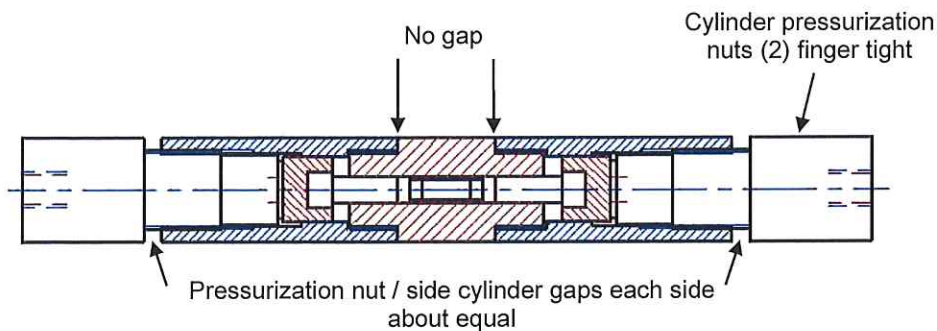

Fig 7 Final assembly before pressurizing
- 6) Thread the side cylinders finger tight to the center cylinder. There should be no gap between the side and center cylinders (fig 7).
Next, loosen the tightened pressurization nut about 3 turns and tighten the opposite pressurization nut. Again, the pressurization nut should tighten smoothly. Work the pistons and teflon sample tube back and forth in this manner about 3 times. When finished, finger-tighten both pressurization nuts so the sample is centered within the center cylinder. This is indicated by noting the gap between the pressurization nut and side cylinder being roughly equal on both sides (fig 7).